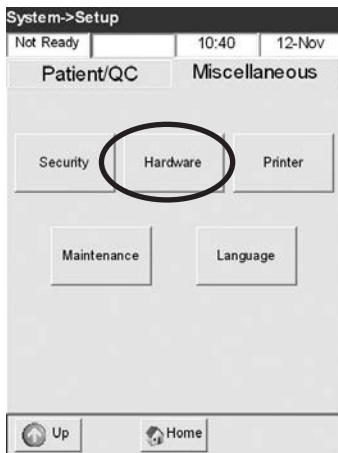

Fig. 3-35 Select Hardware
2. In the **<System Setup>** menu, press the **<Miscellaneous>** tab and then **<Hardware>** to select this function (Fig. 3-35).